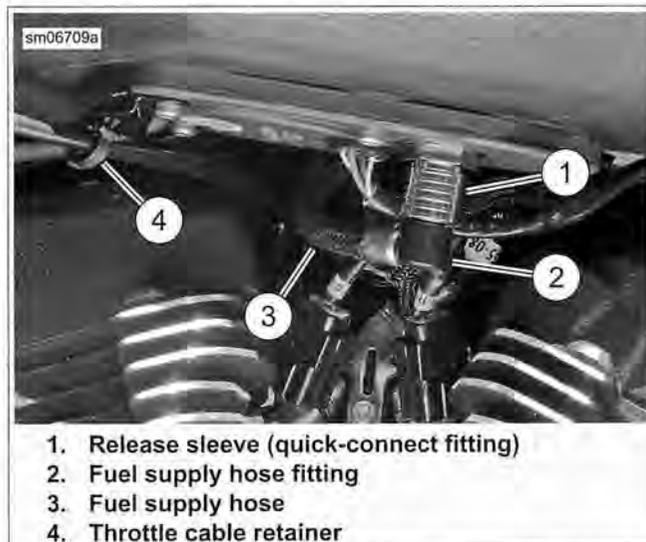
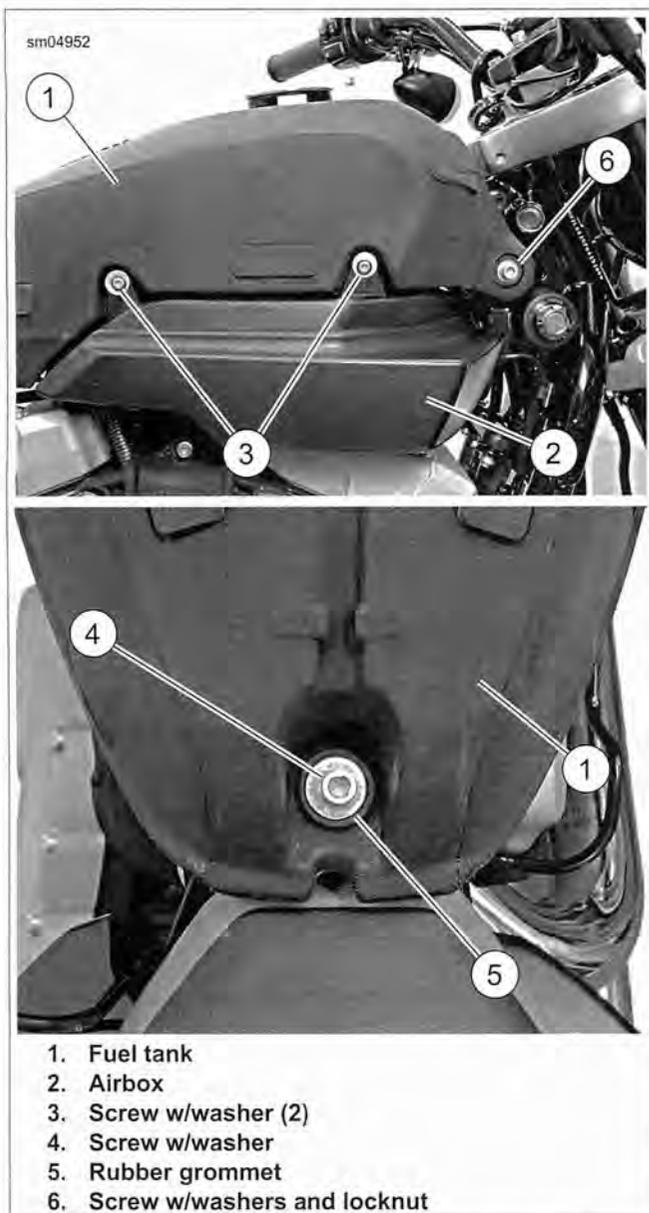

Figure 4-12. Fuel Tank Quick-Connect Fitting
Figure 4-15. Fuel Tank and Airbox Mounting Fasteners
2. See Figure 4-12. Push up on release sleeve (1) on fuel pump quick-connect fitting and pull down on fuel supply hose fitting (2) to disconnect fuel supply hose (3). Immediately clean up any fuel spills.
- See Figure 4-12. Remove retainer (4) securing throttle cables to plate on bottom of fuel tank.
- See Figure 4-15. Remove two screws and washers (3) securing airbox to bottom of fuel tank.
- Remove screw with washer (4) from rear of fuel tank. Remove protective plastic cap (not shown) from threaded end of screw (6). Remove screw, washers and lock nut.
- See Figure 4-12. Remove throttle cable retainer (4) from fuel tank.
7. Make certain metal bushing (4) is located inside rear lower rubber grommet (3) of fuel tank. Install screw (1), washer (2), and upper grommet (3) and thread into clip nut (5). Tighten to 15-20 **ft-lbs** (20.3-27.1 Nm).
8. Tighten front screw (6) and locknut (7) to 15-20 **ft-lbs** (20.3-27.1 Nm).
9. See Figure 4-12. Secure throttle cables to bottom of fuel tank using a **new** loop retainer.
1. See Figure 4-12. Connect the fuel hose fitting:
- a. Push up on release sleeve (1).
- b. Push fuel hose fitting (2) into fuel pump module fuel pump quick-connect fitting.